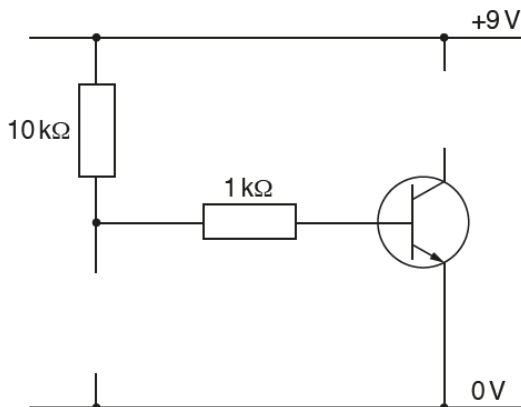

Fig. 1
2 (a) Fig. 1 shows part of a circuit diagram.
- (i) Complete the circuit diagram in Fig. 1 using an NTC thermistor as an input transducer and a signal lamp as an output transducer. [2]